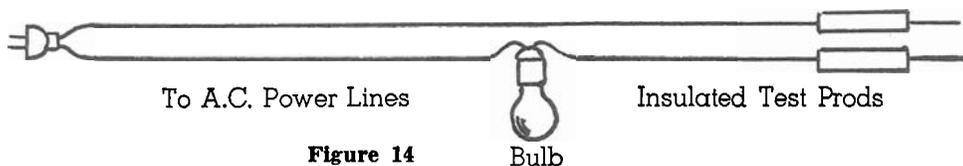

Figure 14
c. If the brushes are found to be making satisfactory contact with the armature but no DC voltage is built up to energize the field coils, stop the generator and check the field circuit with a test light. This test light consists of two insulated test prods, a male plug, and a light bulb connected as shown in Figure 14. CAUTION: BE CAREFUL NOT TO TOUCH THE CONDUCTORS AT THE END OF THE PRODS SINCE THEY ARE CONNECTED TO THE POWER LINE. WHEN USING THE TEST LIGHT ON ANY EQUIPMENT, ALWAYS MOUNT IT ON A WELL-INSULATED BASE SUCH AS DRY WOOD, GLASS, OR RUBBER. DO NOT TOUCH THE OBJECT WHILE IT IS BEING SUBJECTED TO TEST.